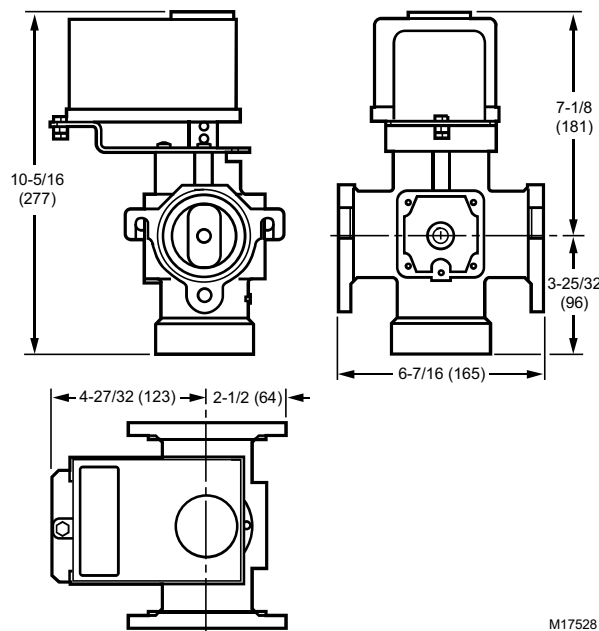

Fig. 2. V5197A Firing Rate Gas Valve, with mounting bracket (included) and ML7999 Actuator (not supplied), dimensions in in. (mm).
1. Place the actuator over the shaft, see Fig. 2.